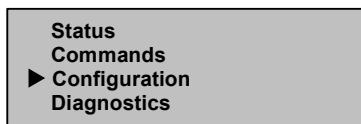

Figure 30: Main menu
1. On the main menu, scroll to Configuration. (See Figure 30.)